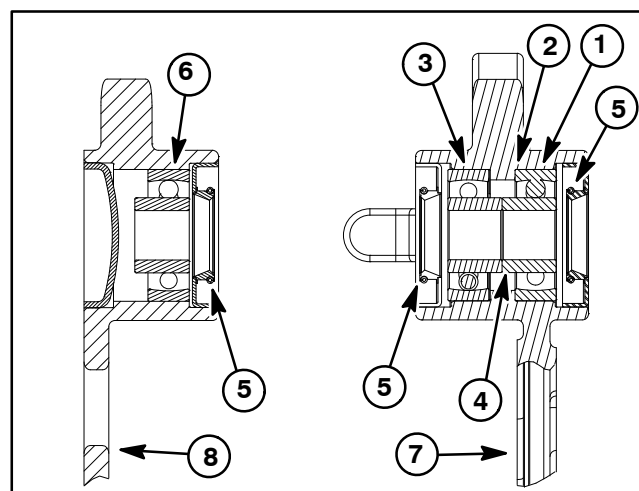

Figure 23
1. Install new grooming reel bearings and seals into RH drive plate and LH support plate assemblies (Fig. 23):